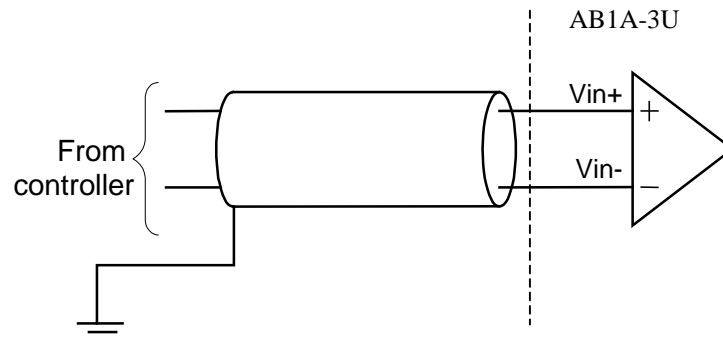

Figure 3: Differential Analog Input Connection
- Differential connection (see Figure 3)